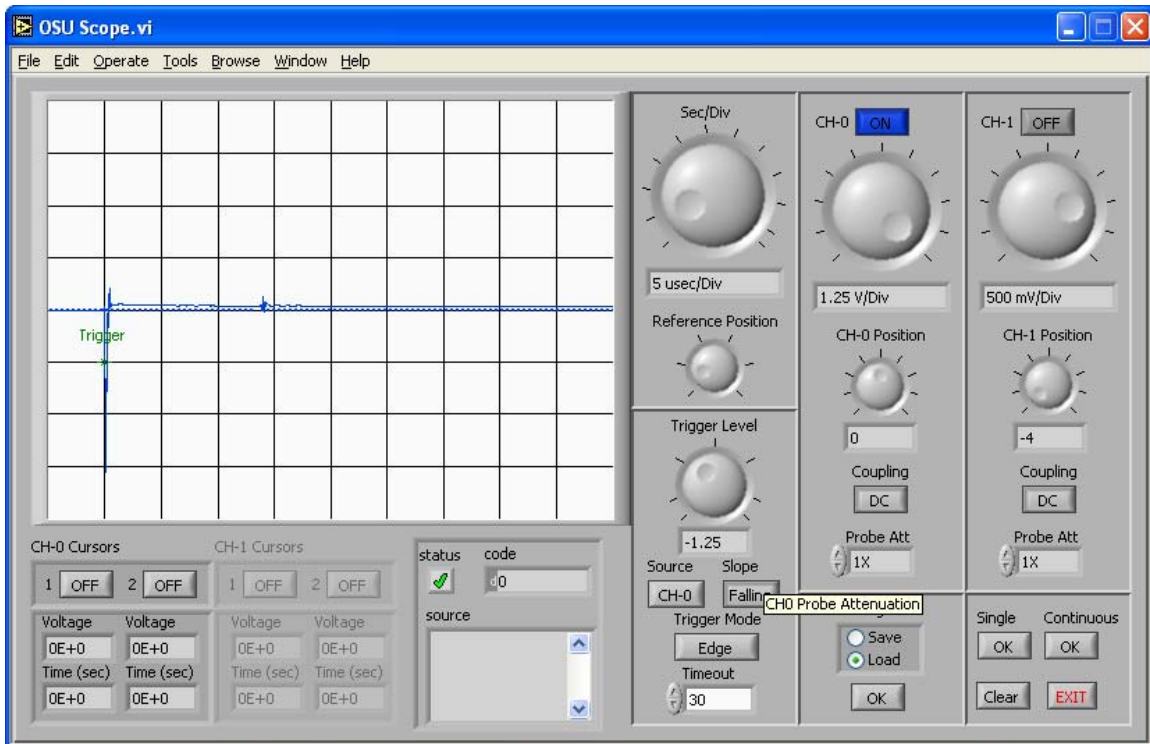

Figure 3. Flash trigger graph.
- 4.4 Load the "CameraB_Task3.sco" settings file, and verify the settings match those in Figure 3.
- 4.6 Press the 'Single' button in the O-Scope display, then press the FLASH button. A trace should immediately appear on the display screen. The trace may look similar to Figure 3. The trace could also appear as a decaying sine wave, with well defined peaks and valleys, and a definite frequency. Often there is still a trigger signal before the oscillation. Use the cursors to check. If you do not see the trigger signal, try again. It does not appear like Figure 3, try again. If you cannot get a trigger signal, continue with step 4.7.
- 4.9 Use the measurement cursors to record the duration and voltage of the trigger pulse. If the waveform does not appear similar to Figure 3, measure the voltage and time of the first 3 peaks and first 3 valleys of the waveform, and record in Results Table 4. Adjust the scope voltages you